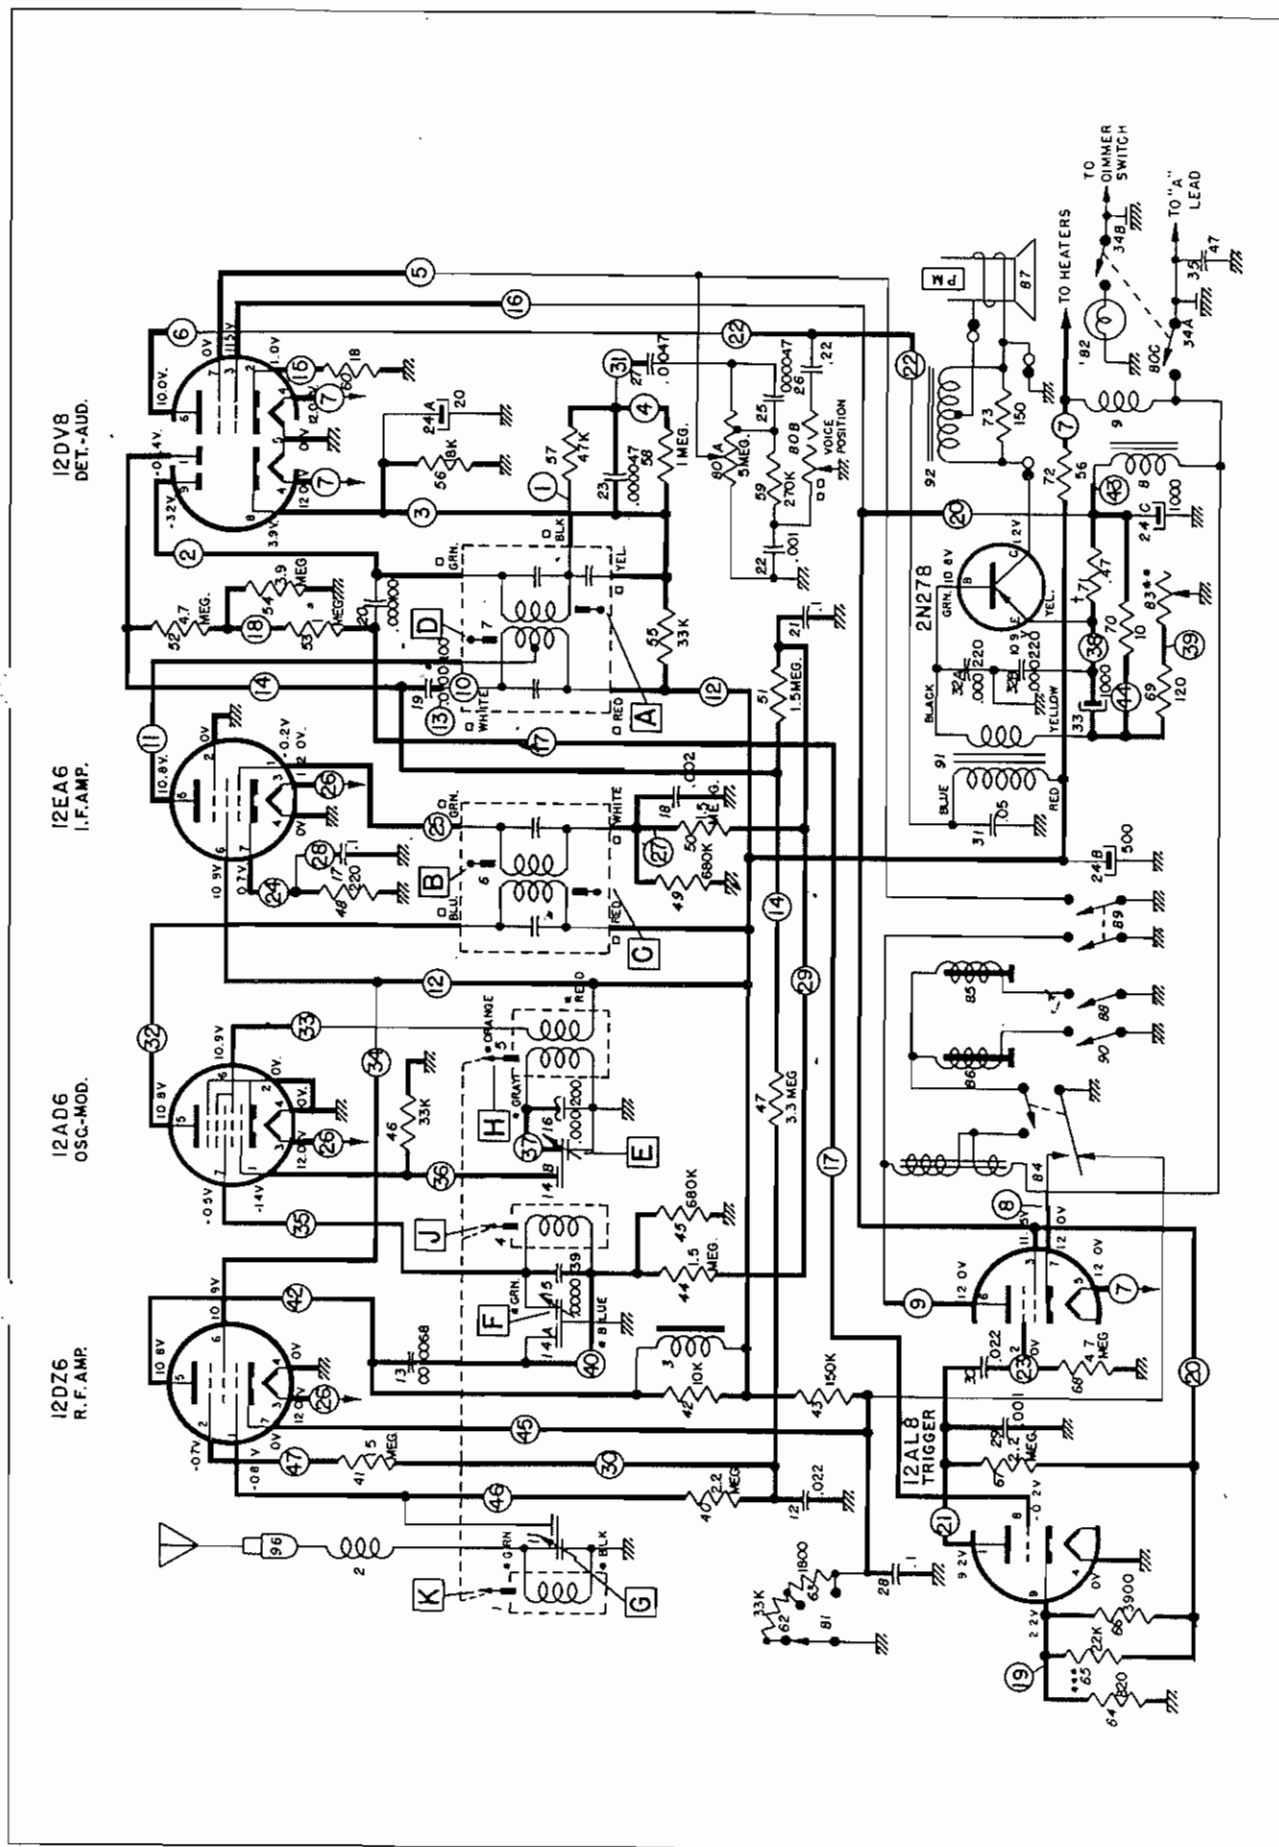

Figure 16 CIRCUIT DIAGRAM - 987730 - RADIO
1. Connect signal generator lead to a .000082 mfd. condenser and connect to antenna terminal of antenna socket. Mechanically align iron core "H" on circuit diagram and parts layout to measure 1 and 5/8 inches in coil forms from rear mounting edge of coil as shown in figure 16.